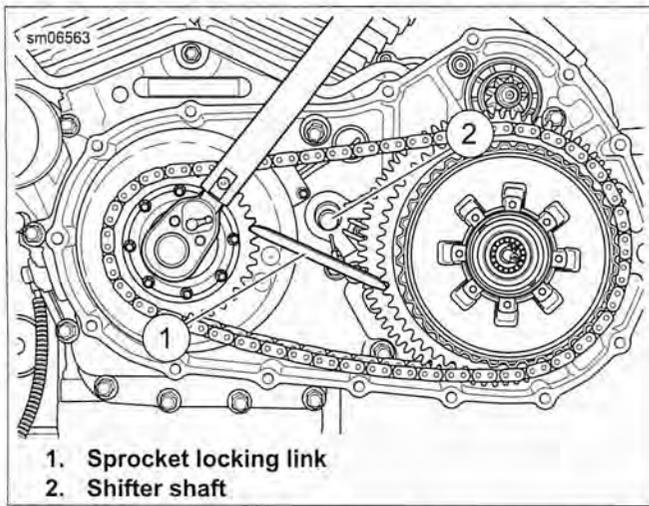

Figure 5-17. Tighten Engine Sprocket Fastener (typical)
See Figure 5-17. Do not position the sprocket locking link too close to the shifter shaft (2). If the sprocket locking link contacts the shifter shaft while you are exerting force to tighten the engine sprocket nut, the sprocket locking link may damage the shifter shaft and/or the engine crankcase.
- See Figure 5-17. Install the sprocket locking link.